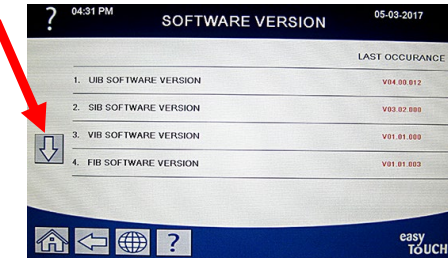

Figure 25
- 8. Press the down arrow button **TWO** (2) times (see Figure 25).